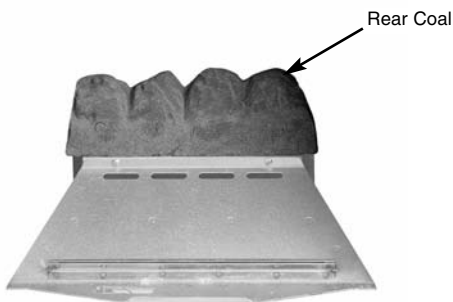

Fig. 39
1. Place the rear coal on the rear coal retainer ledge in a central position (Fig. 39).